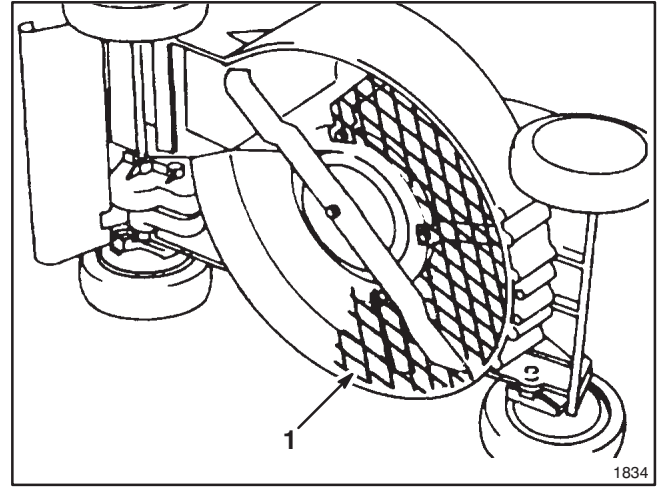

Figure 31
2. Leaf Shredder Kit, Model No. 59180—Installs on underside of mower in minutes without requiring removal of blade. Shreds leaves into small pieces for clean vacuuming into grass bag and convenient disposal (Fig. 31).